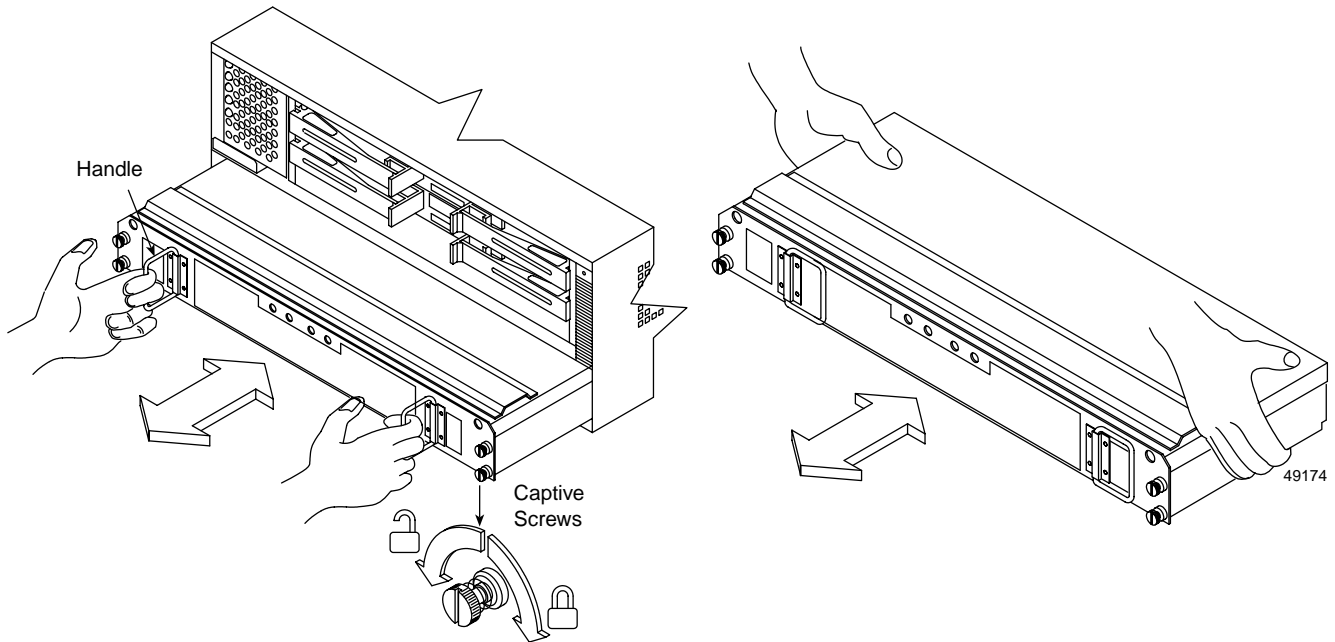

Figure 4-5 Removing and Installing a Battery Canister
4. Remove the battery canister (see Figure 4-5).